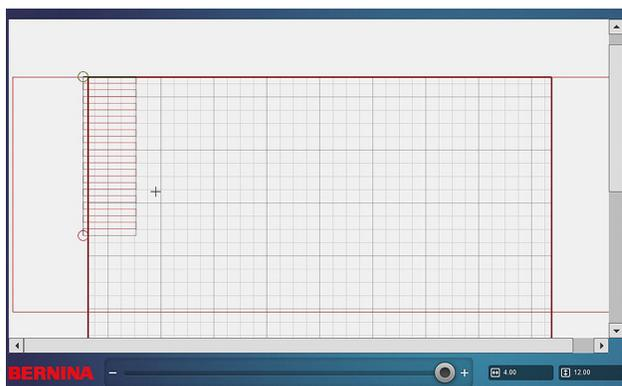

Fig. 68
6.  Select Rotate and tap the clockwise 45-degree icon twice to make the lines horizontal and move the start point to the upper left. Position the design so that it is at the top and slightly outside of the Quilt grid on the left (Fig. 68).